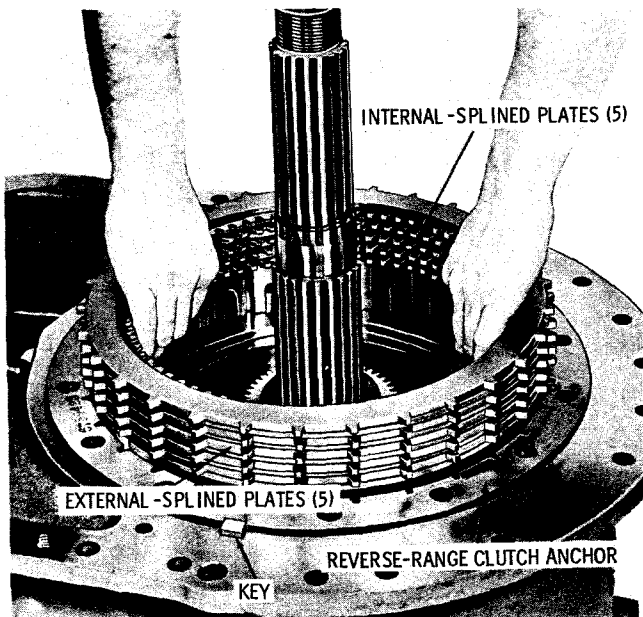

Fig. 5-63. Removing reverse-range clutch plates
(2) Remove five external- and five internal-splined, reverse-range clutch plates from the reverse-range clutch anchor (fig. 5-63). Remove the reverse-range clutch anchor. Remove two keys from the transmission housing and place them in a marked container.